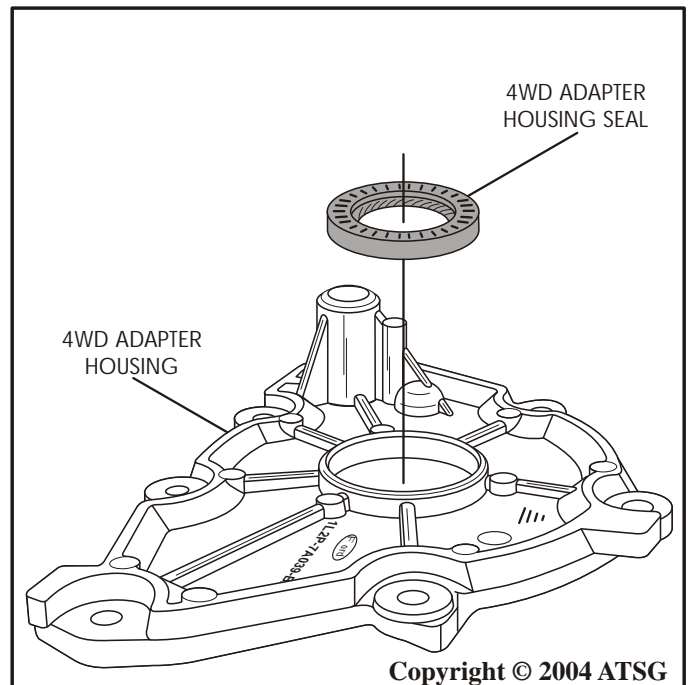

Figure 124
4. If you have a 4WD, install new adapter housing seal, as shown in Figure 124, using the proper seal driver.